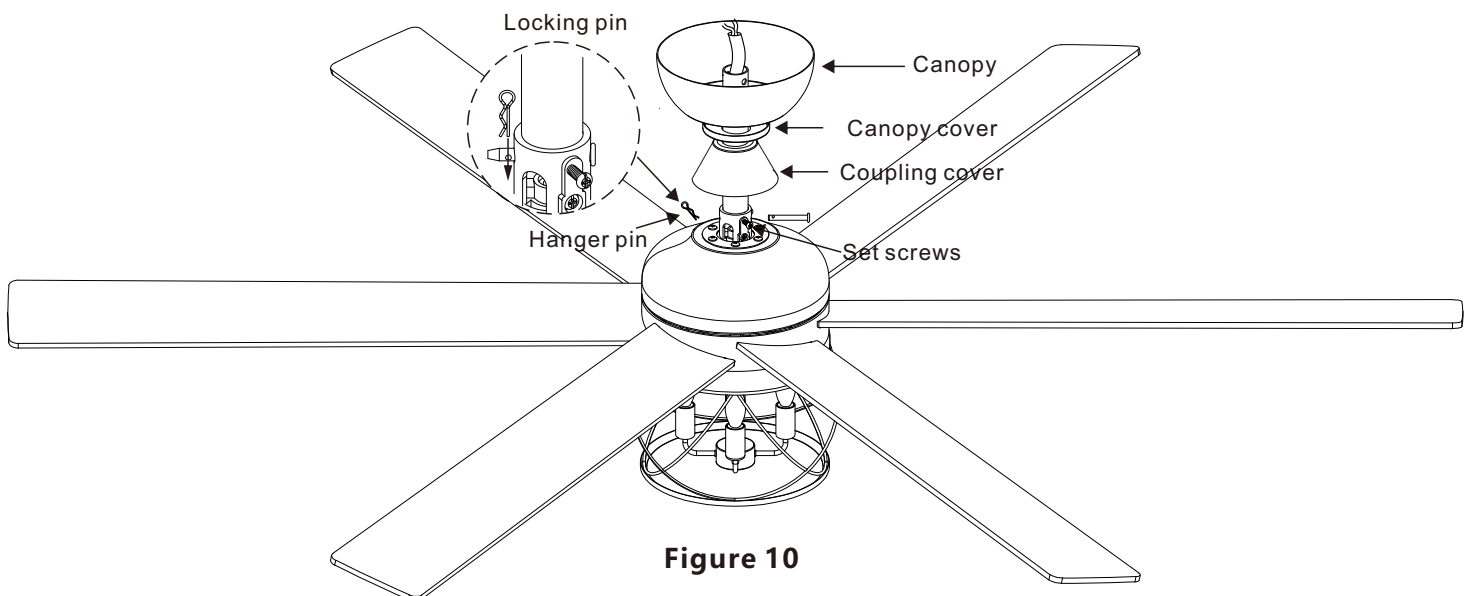

Figure 10
Step 4. Route the wires and safety cable coupler exiting from the top of the fan motor through the coupling cover, canopy cover and canopy, then through the ball/downrod. (Fig. 10)
Step 5. Thread downrod into the motor coupling until the holes on the downrod and coupling are lined up (Fig. 10) Carefully insert the hanger pin through the holes in the collar and downrod. Be careful not to jam the pin against the wiring inside the downrod. Insert the locking pin through the hole near the end of the hanger pin until it snaps into its locked position, as shown in the circle inset of (Fig. 10)
Step 6. Tighten two set screws against the downrod on the coupling firmly. (Fig. 10)